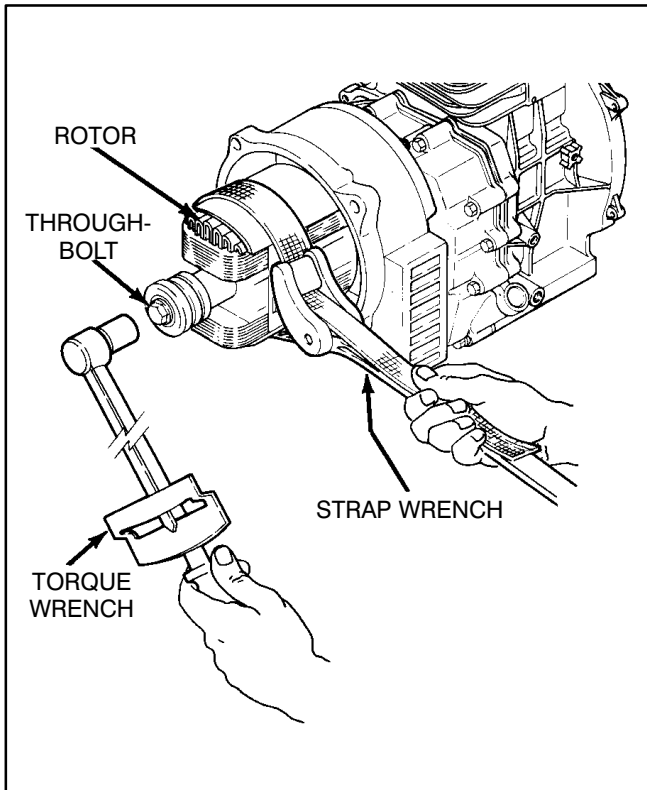

FIGURE 8-8. SECURING ROTOR FOR INSTALLATION
- Secure rotor with a strap wrench (Figure 8-8) and tighten to torque specified in Section 4 of this manual.
Remove the connector from the stator main coil and connect the meter leads (Figure 8-8) to the red and white leads from the stator main coil. Refer to Table 8-5 for the stator main coil resistance value. A high resistance reading indicates an open winding. A reading of less than the value shown indicates a shorted winding. If an open or shorted winding is detected, replace the stator.
The rotor can be tested without removing it from the generator. Remove the generator end cover and refer to Figure 8-8 for the test points.
The rotor coil winding has a diode connected in series with it. Using pointed meter test prods, touch ohmmeter test prods to the two posts that the yellow rotor winding leads attach to (see Figure 8-8). It is necessary to pierce the insulation on the posts to obtain an accurate reading of the winding resistance. Also, because a diode is attached in series with the windings, the meter leads must be reversed for a second reading. Refer to Table 8-13 for the rotor coil resistance value. It is normal to measure a